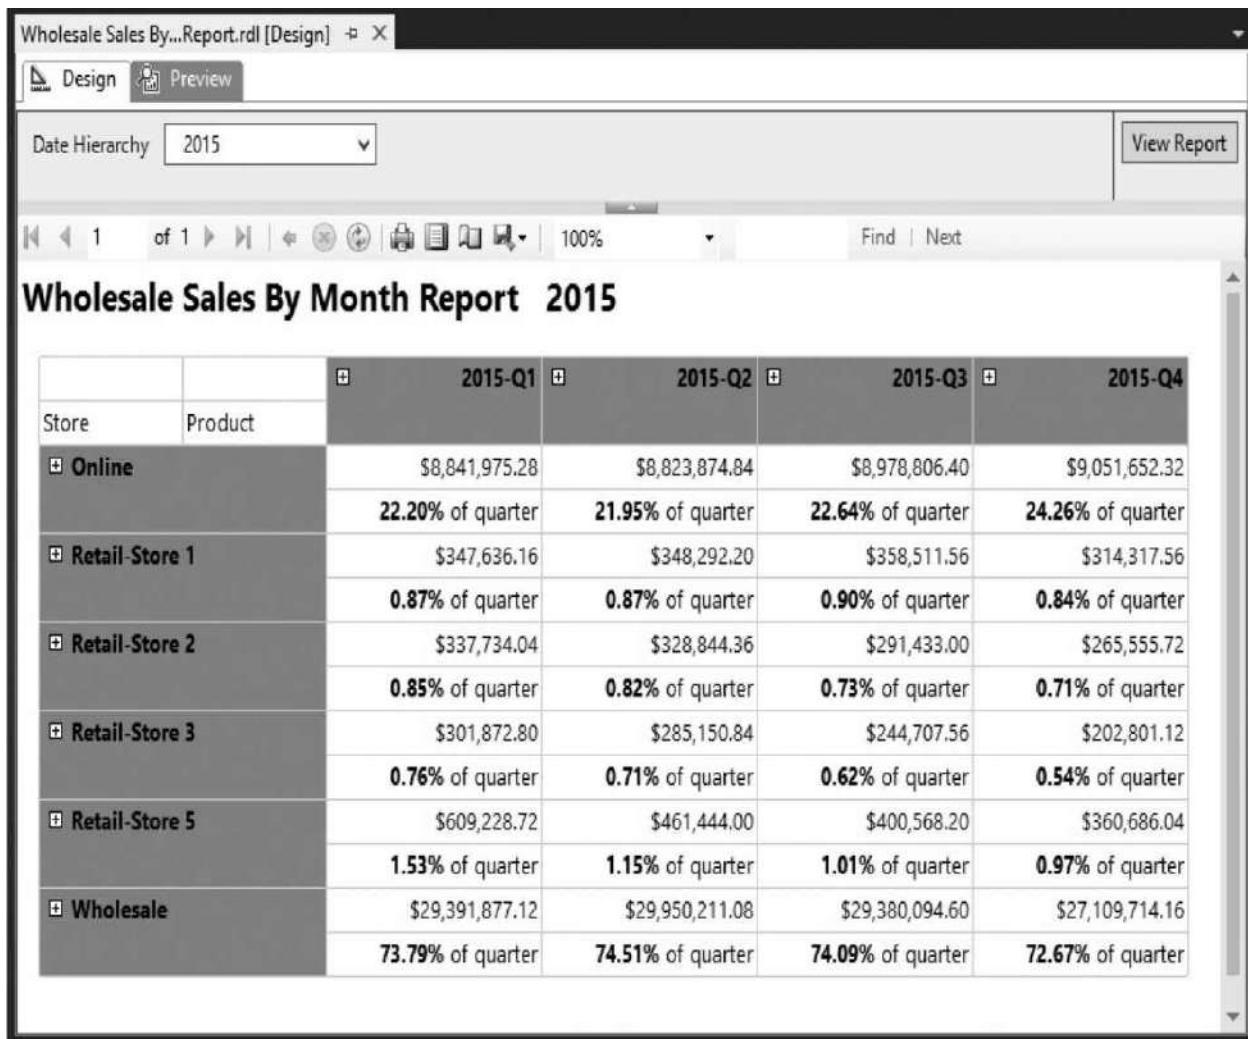

Figure 17-11 The Wholesale Sales By Month Report preview—completed
17. Select the Preview tab. Your report appears, as shown in Figure 17-11 .